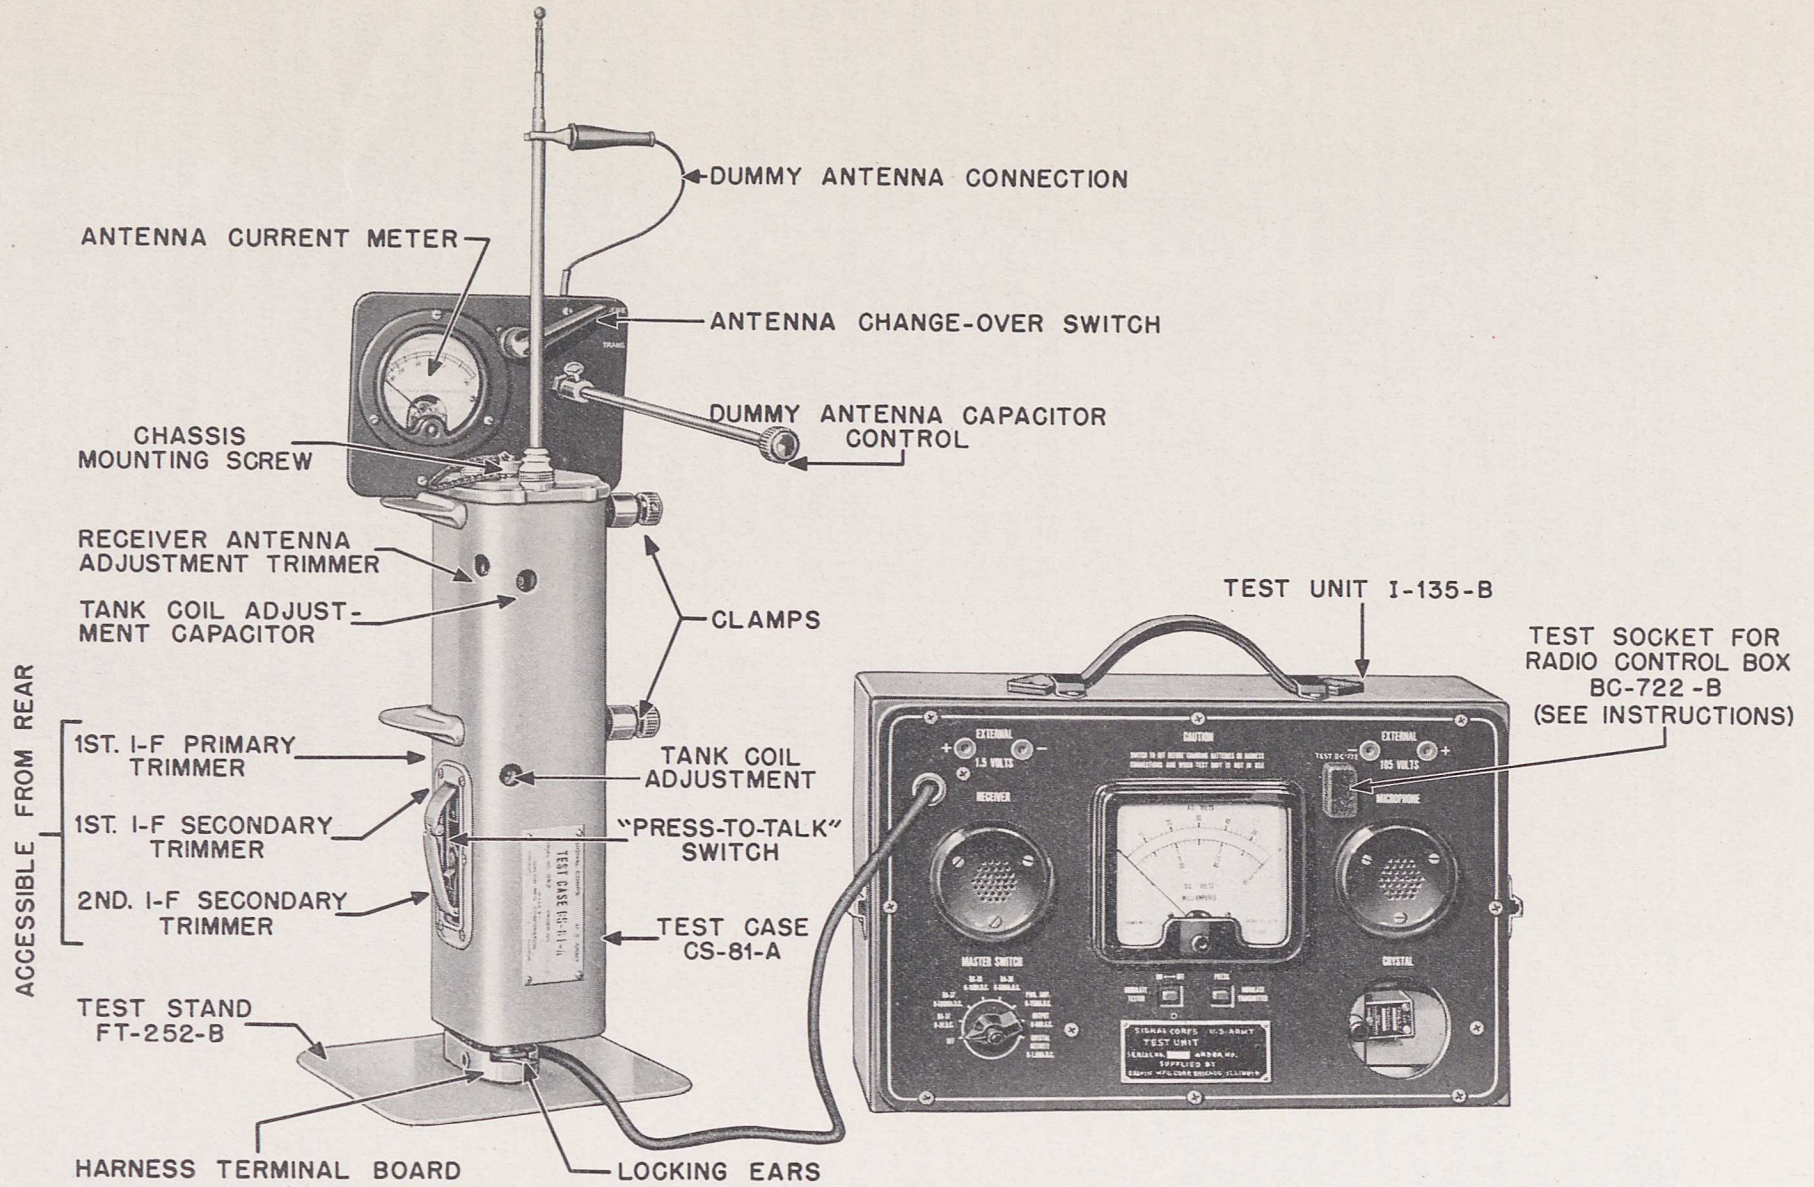

FIG. 12. TEST UNIT EQUIPMENT IE-17-B, SET-UP FOR RECEIVER ALIGNMENT
b. Test Case CS-81-A.—As the tuning adjustments are inaccessible because of their location on the chassis, which is covered by the case or housing, special apparatus (Test Equipment IE-17-B) is required to make these adjustments. See Fig. 12. Test Case CS-81-A is similar to a chassis housing except for the holes that have been provided to permit access to the adjustments. This apparatus permits tuning the set under conditions identical to those of normal operation. The tuning adjustments should not be made on the set without the housing around the chassis, because the set would become detuned when inserted into the housing. Detuning or misalignment would result from the additional capacity introduced into the circuit by the housing.
(5) Next, clamp Test Case CS-81-A into Test Stand FT-252-B with the antenna end up, and the housing in such position that the change-over switch is opposite the left side of the operator as he faces the stand. See Figure 12. The upper clamp should grip the housing on the edges of the top cover. The lower clamp should not be made too tight as the pressure may crack the housing.
(6) Make certain that the "MASTER SWITCH" of the test unit is in the "OFF" position. Then connect external 1.5 volt and 90 volt heavy duty batteries of the type described in paragraph 32, *d*.
(5) Turn the "MASTER SWITCH" on test unit to "BA-38, O-60 MA. D.C.," position and observe the meter reading. The normal reading is approximately 14 ma. when the radio set is operating as a receiver.
(6) The receiver is now ready for alignment. Be sure that a good transmitter crystal of the proper frequency is in place in the test unit. The preceding activity check of the transmitter crystal will assure that a radio frequency signal is being generated.
(7) Set the "MODULATE TESTER" switch to "ON." The 1000 c.p.s. tone will now modulate the carrier signal.
(8) Turn the "MASTER SWITCH" to "OUTPUT, 60 V. A.C." position. A reading should now be indicated on the meter and a 1000 c.p.s. tone should be heard in the earphone of the test unit.
(9) The r-f signal for alignment is fed into the receiver by radiation from the compartment in the test unit in which the crystal is located. The slide cover of the crystal compartment acts as a radiation control preventing the signal from radiating when closed and allowing maximum radiation when open. If the set is badly out of alignment, the r-f signal picked up by the receiver may not be sufficient to give a reliable audio voltage reading on the meter (OUTPUT O-60 V. A.C. position). For such a condition, connect a short piece of wire to the Fahnestock clip marked "R.F. OUTPUT". This clip is located in the crystal compartment of the test unit. The wire will act as an antenna and increase the radiation of the r-f signal. Varying the position of this wire with respect to the antenna of the radio set or varying the length of the wire will control the strength of the signal radiated. It may be necessary in extreme cases of misalignment that the wire connected to the "R-F OUTPUT" terminal will have to be wrapped a couple of turns around the radio set antenna.
(10) The test case shall be grasped with one hand during all the alignment tests on the receiver.
(11) The location of the tuning adjustments on the radio chassis are shown in Figs. 12, 15, and 16. With the insulated screwdriver, turn the "receiver antenna adjustment trimmer" clockwise. Notice the effect of this adjustment on the output meter reading. If the meter reading increases, continue to tighten the screw until a maximum reading is obtained. If the reading decreases, turn the screw counter-clockwise until a maximum reading is obtained. Be careful not to tighten the screw after it begins to turn hard as the threaded base of the trimmer will be stripped. The setting of the trimmer screw for maximum audio output should fall somewhere between the point of
(4) Turn the "MASTER SWITCH" on test unit to "BA-37, 0-600 MA. D.C." position and observe the meter reading. The normal reading is approximately 300 ma. This reading is the current drain on the "A" battery, when the radio set is operated as a transmitter.
(5) Turn the "MASTER SWITCH" on test unit "BA-38, 0-150 V. D.C." position and observe the meter reading. If this reading is below 75 volts, the external heavy duty 90 volt battery will have to be replaced. This reading is the "B" battery voltage when the radio set is operating as a transmitter.
(6) Turn the "MASTER SWITCH" on test unit to "BA-38, 0-60 MA. D.C." and observe the meter reading. The normal reading is approximately 30 ma. when the radio set is operated as a transmitter.
(7) Turn the "MASTER SWITCH" on test unit to "PWR. AMP." position. Adjust the "tank coil adjustment capacitor" for *minimum* current reading on the meter in the test unit. The normal reading in this position is approximately 7 ma. See Figure 12 for location of "tank coil adjustment capacitor." *Be sure to grasp the test case with one hand during this test.*
(8) Telescope the upper three sections of the antenna rod leaving only the bottom or fourth section fully extended from the housing. Next, clip the "dummy antenna connection" to the upper part of the antenna rod. See Figure 12. Set the antenna switch on the panel of Test Stand FT-252-B to "TRANS." position, and then using the insulated shaft, adjust the "dummy antenna capacitor control" for *minimum current reading on the meter in test unit* (approximately 7 ma. meter in PWR. AMP. position). This adjustment of the dummy antenna capacity for minimum power amplifier plate current is necessary to compensate for the change in antenna capacity due to telescoping the upper three sections of the antenna rod. Observe the antenna current reading on the R.F. meter on Test Stand FT-252-B. This should be approximately 15 ma. and represents the unmodulated antenna current.
(9) Place the "MODULATE TESTER" switch to "ON" position and press the "MODULATE TRANSMITTER" button on the test unit. This applies a .2 volts, 1000 c.p.s. audio signal across the microphone terminals. Note the rise in the antenna current meter reading when the modulated signal is applied. This rise should be at least six per cent over the unmodulated current reading. A six per cent increase in antenna current indicates fifty per cent modulation. For example, assume that the unmodu-
(1) This method of alignment is satisfactory as long as the transmitter crystal and receiver crystals in the set are exactly 455 kc apart.
(2) If the regular alignment procedure described in paragraph 32g has been followed, and no readable audio voltage has been obtained on the "OUTPUT O-60 V. A.C." position of the test unit meter, first make sure that a maximum r-f signal is being radiated. This can be assured by connecting a short length of wire to the "R.F. OUTPUT" terminal of the test unit and placing this wire close to the receiver antenna.
(3) Then with the "MASTER SWITCH" of the test unit on "OUTPUT 60 V. A.C.," adjust the second i-f secondary trimmer for maximum output, then the first i-f secondary trimmer next, and the first i-f primary trimmer last. See Fig. 12. All i-f trimmers are adjusted for peak output meter reading. As the i-f trimmers are aligned, loosen the signal coupling to the receiver antenna so the maximum audio output reading of the meter is not over 10 volts. This is necessary to prevent overloading the receiver and consequently poor alignment of the i-f circuits. The above alignment adjustments must be performed very carefully for good results.
(4) After the i-f alignment adjustments have been made, complete the regular alignment procedure by adjusting the "receiver antenna adjustment trimmer" and the "tank coil adjustment" as given in paragraph 32g.